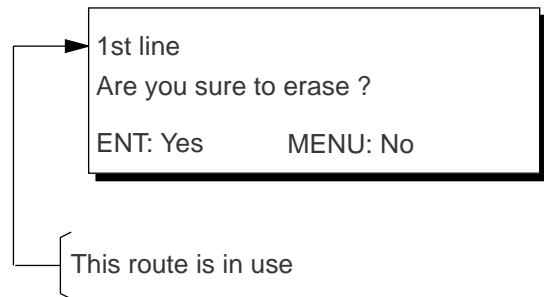

Figure 4-17
- 3) Press the **CLEAR** key. The display shown in Figure 4-17 appears if the route is in use.